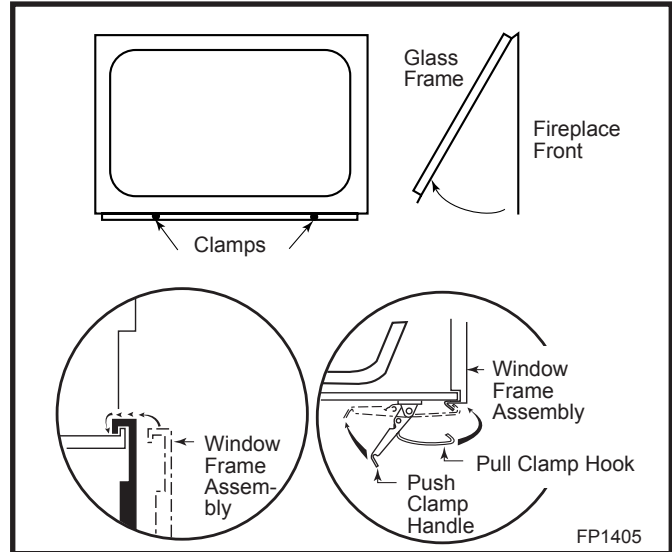

Fig. 36 Window frame assembly removal.
5. Release the two clamps at the bottom of the window frame by pulling down on the clamp handles. (Fig. 36)